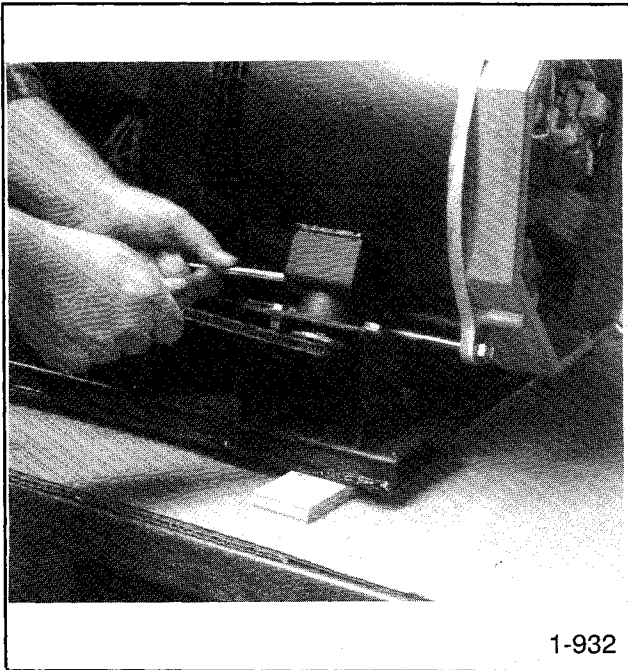

Figure 8-7. Removing the Vibromounts.
15. Remove the bolts from the two generator vibromounts. See Figure 8-7.